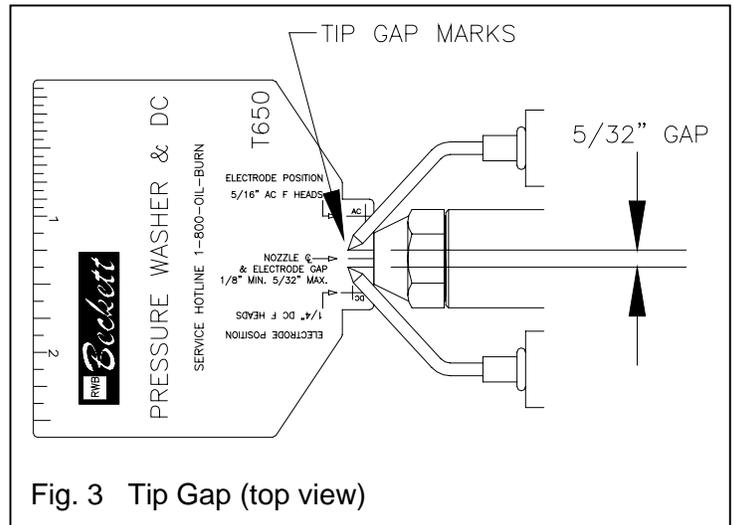

Fig. 3 Tip Gap (top view)
3. To set the electrode tip gap (5/32"), place the gauge so that the tip (set in Step 1 or 2) is on one of the tip gap marks in **Fig. 3** (top view). Adjust the remaining tip to the other mark.